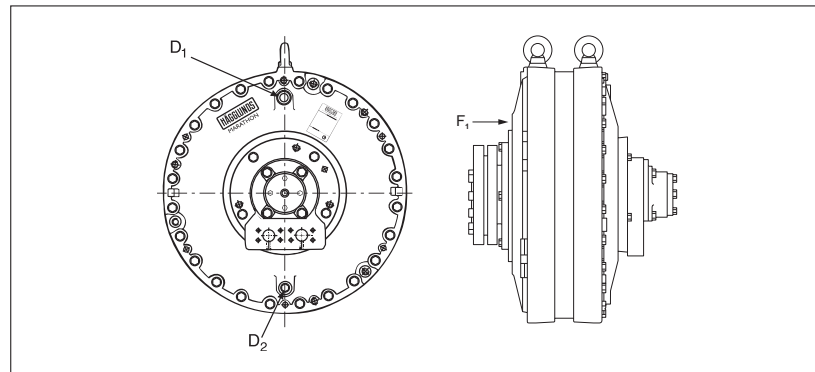

Fig. 4.4.2
3. If it is not possible to turn the motor, plug all connections, open drain outlet D1 or D2 on the port end housing (or if the motor is mounted vertically, vent hole F1 on the shaft end housing) and fill the motor with hydraulic fluid (see Fig. 4.4.2).